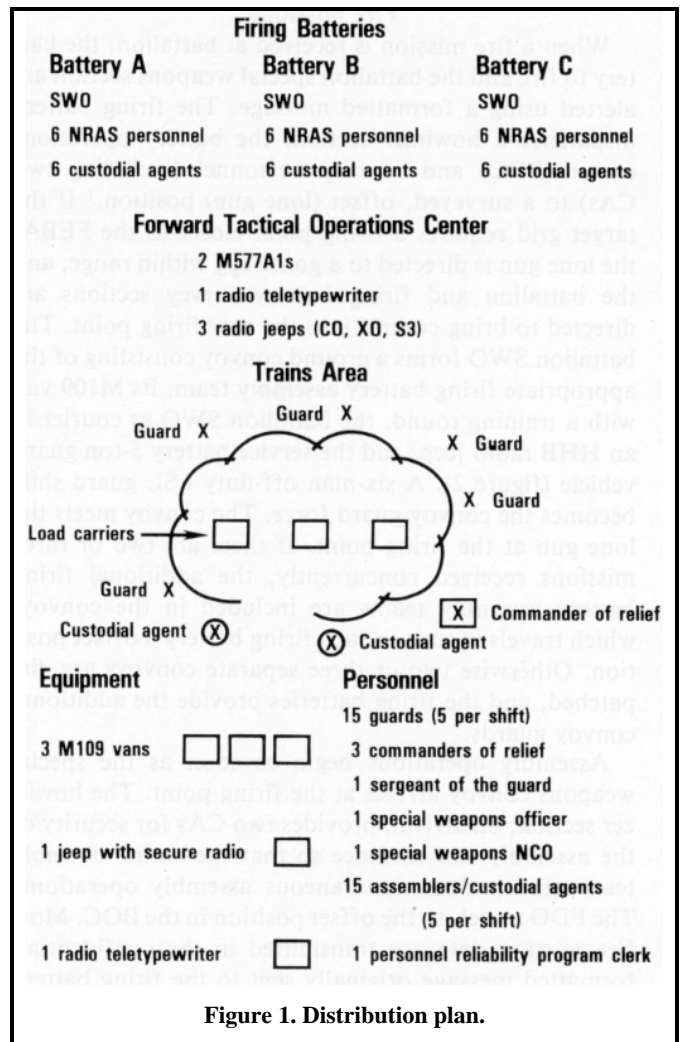

Figure 1. Distribution plan.
Figure 1 depicts the distribution plan for personnel and equipment to best support nuclear operations under all possibilities of commitment. Each firing battery assembly team consists of four assemblers, an NCOIC, and a battery special weapons officer, who is also the battery fire direction officer (FDO). The battalion S3 section has a special weapons section consisting of a special weapons officer, a special weapons NCO (SWNCO), and a personnel reliability program (PRP) clerk who is also a custodial agent (CA). Headquarters and headquarters battery (HHB) provides 19 security personnel for the battalion field storage location (FSL) plus a radio jeep. Service battery provides an alternate load carrier/5-ton guard vehicle with tiedowns. The 18 FSL guards for the three guard shifts are personnel reassigned from the Redeye, fire direction center (FDC), and communications sections. The Redeye section was tested on its tactical capabilities during the ARTEP and could not provide guards regularly. HHB is tasked to provide a special weapons section and the FSL guards, because service battery is already overcommitted in providing conventional ammunition, maintenance, recovery,